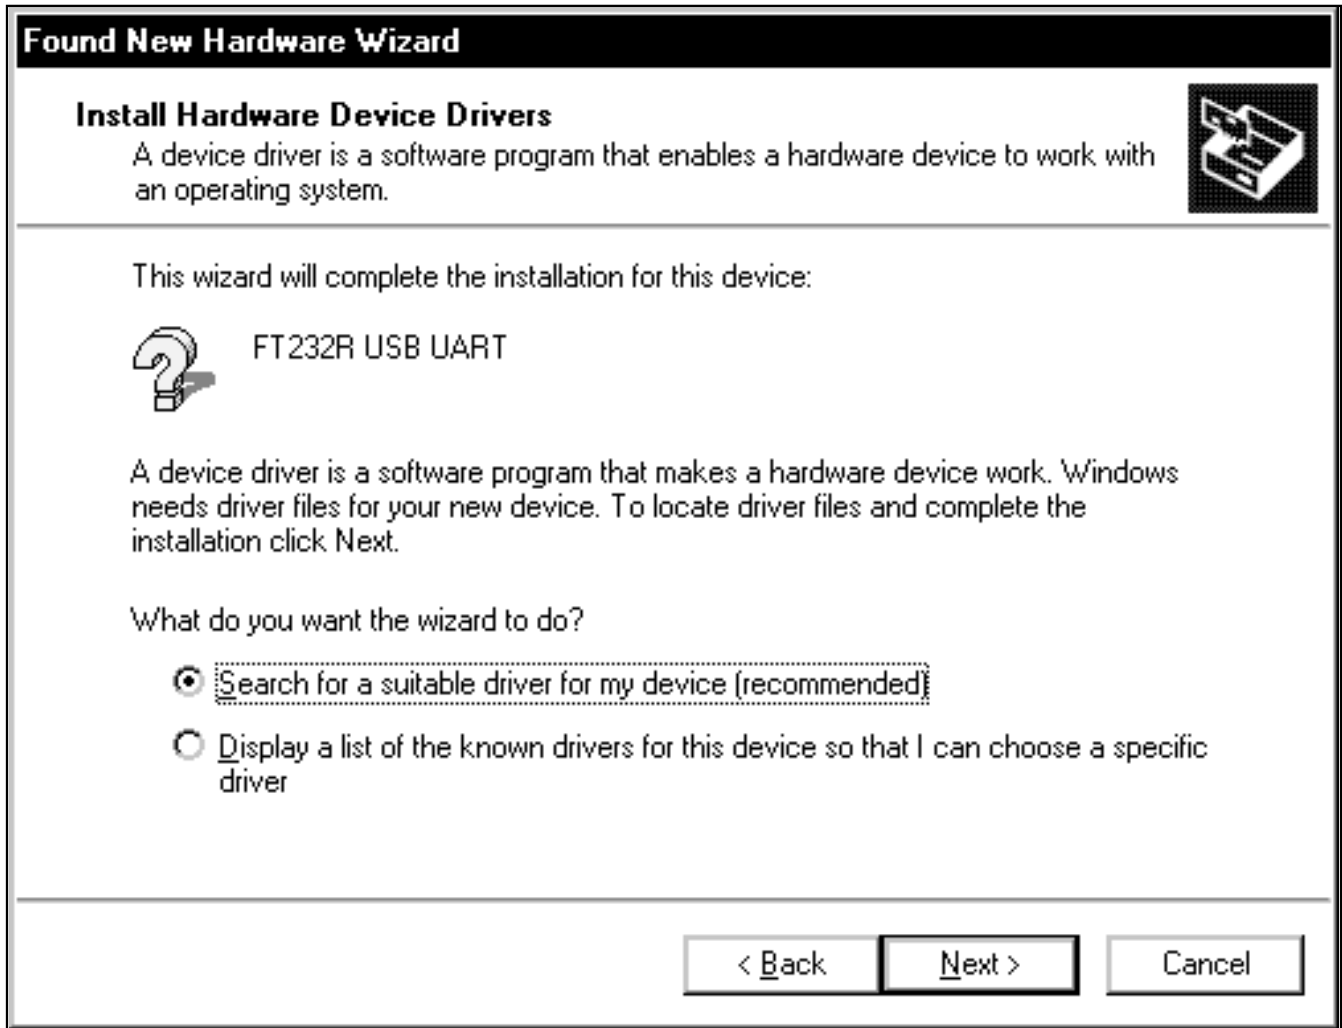

Figure 11. Windows 2000: **Found New Hardware Wizard | Install Hardware Device Drivers** Window
- At the **Found New Hardware Wizard | Install Hardware Device Drivers** window (Figure 11), choose **Search for a suitable driver for my device (recommended)** and press the **Next** button when finished.